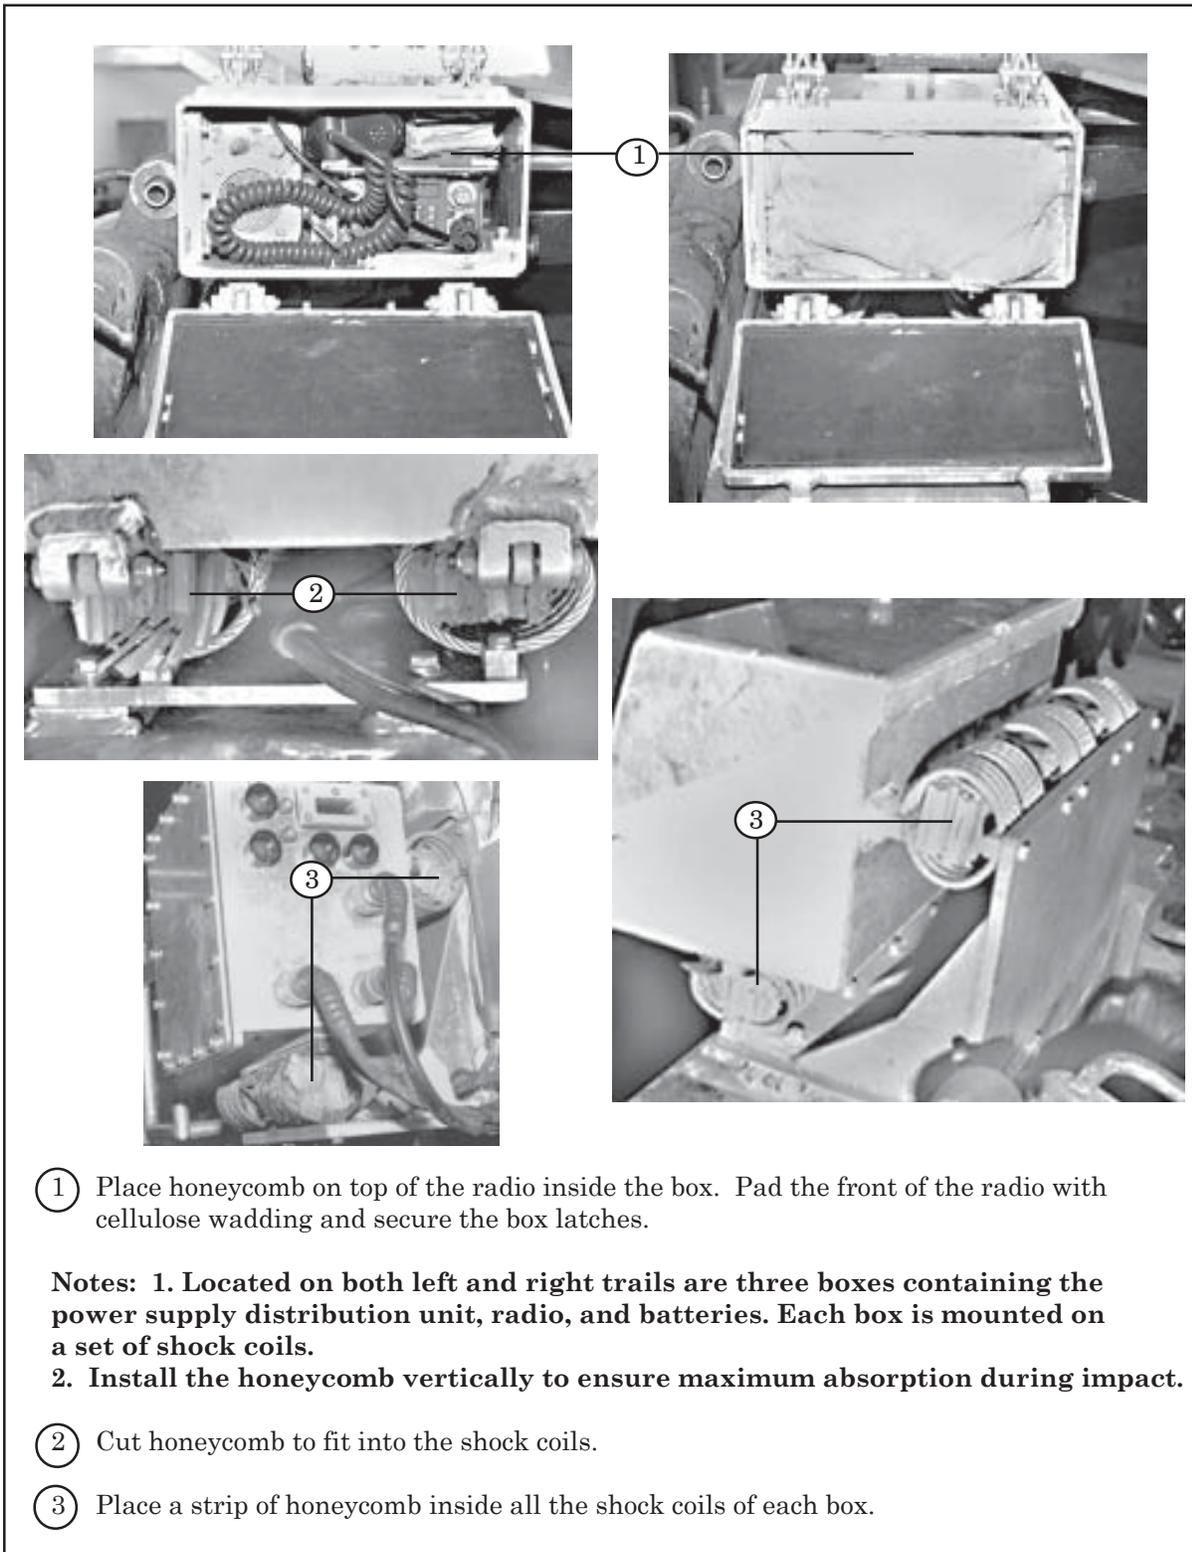

Figure 1-8. Radio, Power Distribution Unit and Batteries Prepared
- c. Prepare the radio, power distribution unit and batteries as shown in Figure 1-8.